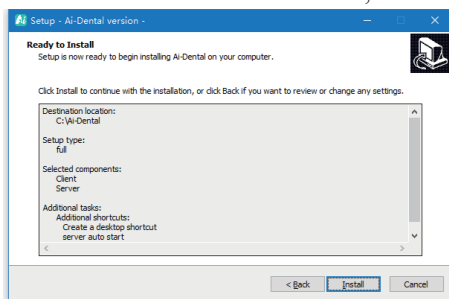

Figure 8
g) Click the “Install” button to start the installation, as shown in Figure 8: